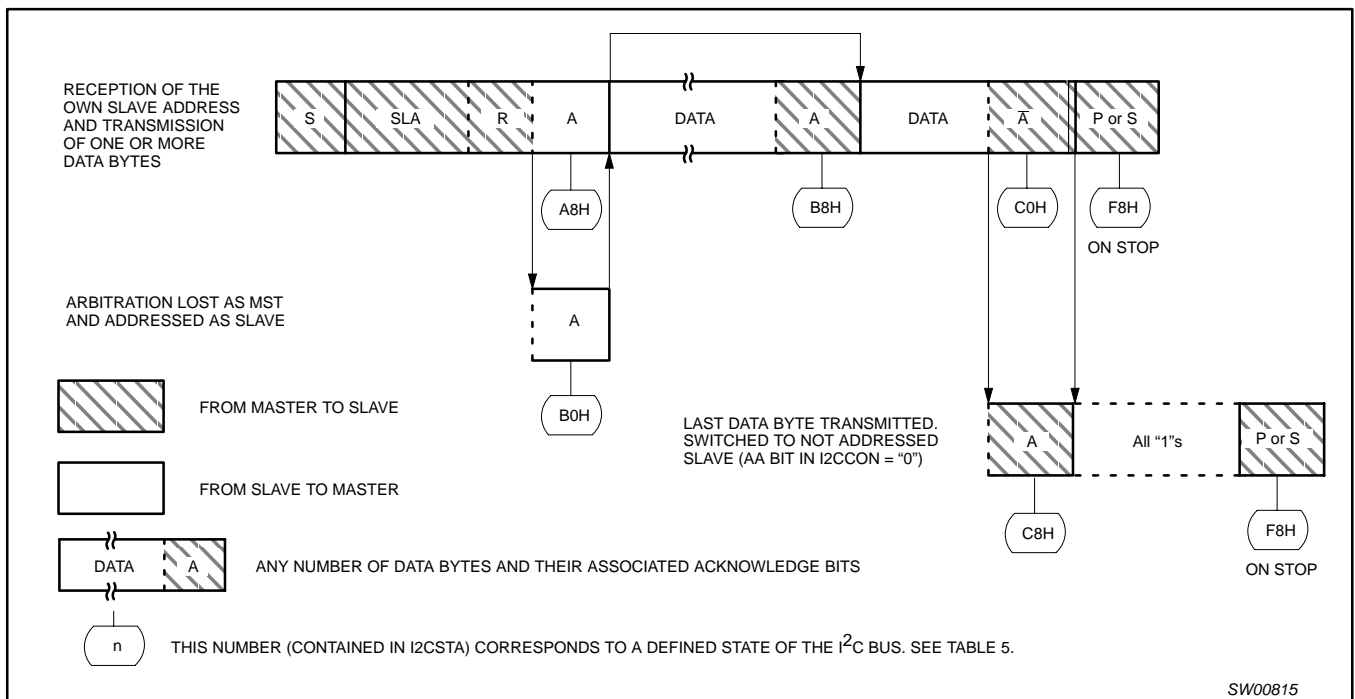

Figure 5. Format and states of the slave transmitter mode
When SIO is in the addressed slave transmitter mode, state C8H will be entered after the last serial is transmitted (see Figure 5).
Slave Transmitter Mode: In the slave transmitter mode, a number of data bytes are transmitted to a master receiver (see Figure 5). Data transfer is initialized as in the slave receiver mode. When I2CADR and I2CCON have been initialized, SIO waits until it is addressed by its own slave address followed by the data direction bit which must be "1" (R) for SIO to operate in the slave transmitter mode. After its own slave address and the R bit have been received, the serial interrupt flag (SI) is set and a valid status code can be read from I2CSTA. This status code is used to vector to an interrupt service routine, and the appropriate action to be taken for each of these status codes is detailed in Table 5. The slave transmitter mode may also be entered if arbitration is lost while SIO is in the master mode (see state B0H).